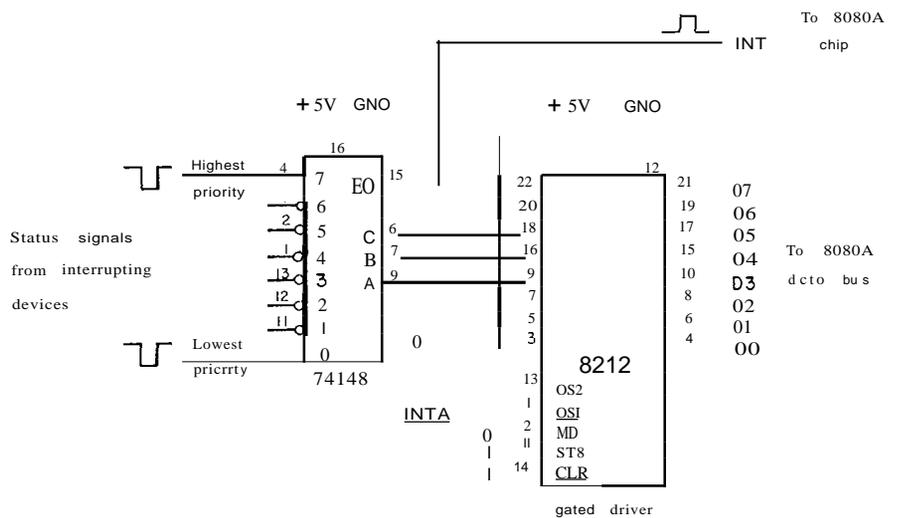

Figure 4 Priority interrupt encoding scheme for 8080A microcomputers.
*Figure 4* is probably the simplest priority encoder interrupt circuit that can be used with an 8080 microcomputer. The Intel 8212 chip is used as an 8-bit three-state buffer that inputs the instruction byte into the instruction register. The 74148 8-line-to-3-line priority encoder chip has the truth table shown in *Table 2*.
The purpose of the circuit in *Figure 4* is to input the restart instruction, 3Y7, into the microcomputer. Five of the eight inputs to the 8212 chip are tied to a logic 1 state. The remaining three bits supply the encoded vector address of the restart subroutine. By virtue of its truth table, the 74148 priority encoder chip provides eight priority levels. The inputs to this chip should be latched. The chip provides the three-bit binary output that corresponds to the highest valued priority input which is at a logic 0 state. The inverters invert this information to supply the three-bit "Y" component of the restart instruction. If there is a logic 0 at any of the inputs to the 74148